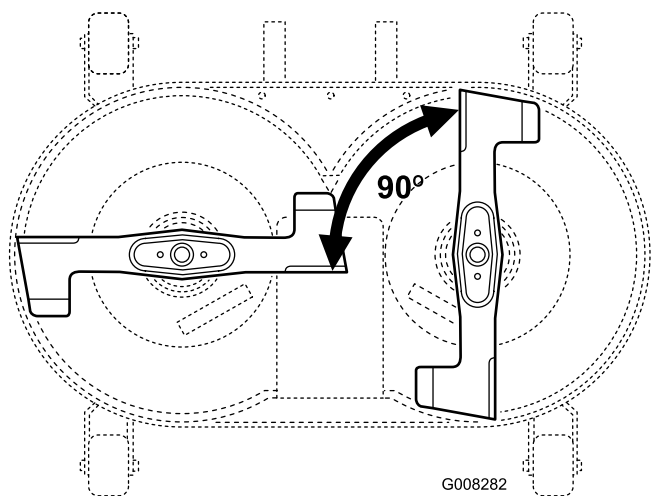

Figure 38
- Position the blades 90 degrees to each other (Figure 38).